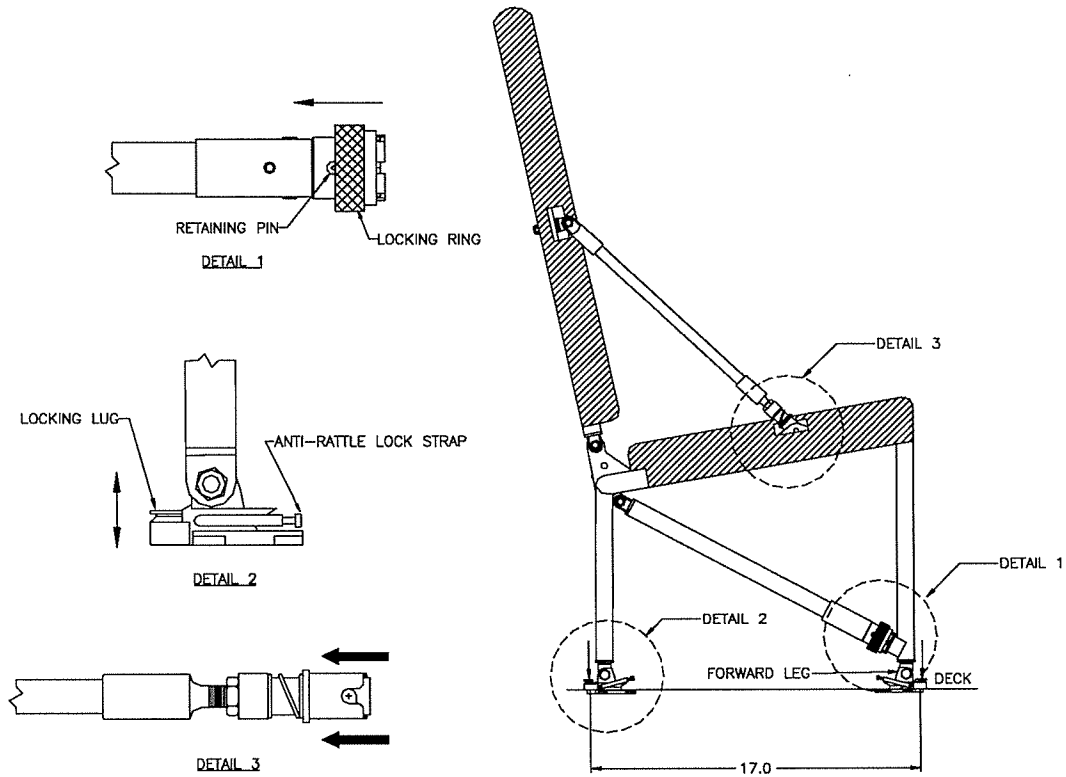

Figure 1.2.1 Seat Installation
1.2.1 Setup and Installation (see Figure 1.2.1):
1. Unfold forward legs and lower diagonal arms. On each lower arm quick-release fitting, push in the retaining pin and retract the locking ring (detail 1, Figure 1.2.1). Position the arms to align fittings with studs on forward legs. Push forward leg back to engage studs in fittings, then extend locking rings to close jaws.
2. Unfold seat back and upper diagonal arms. Position the arms so the quick-release fittings are over the corresponding pins on the seat frame. Retract the spring-loaded collar on one fitting, push the fitting over the pin, then release the collar. Repeat for the opposite side (detail 3, Figure 1.2.1).
3. Unfold rear legs and position the seat over the seat tracks at the desired fuselage station. Drop the forward feet into the tracks (locking lugs must be in the retracted position), slide forward or aft 1/2 inch, and push the locking lugs down to lock the forward feet into the track (detail 2, Figure 1.2.1).